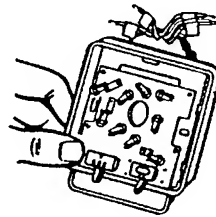

Figure 2. Old thermostat.
3. Remove terminal wires one at a time. As you remove each wire, tag the wire with the terminal identification (such as Y, G, R) as shown on the old thermostat base (see fig. 2).